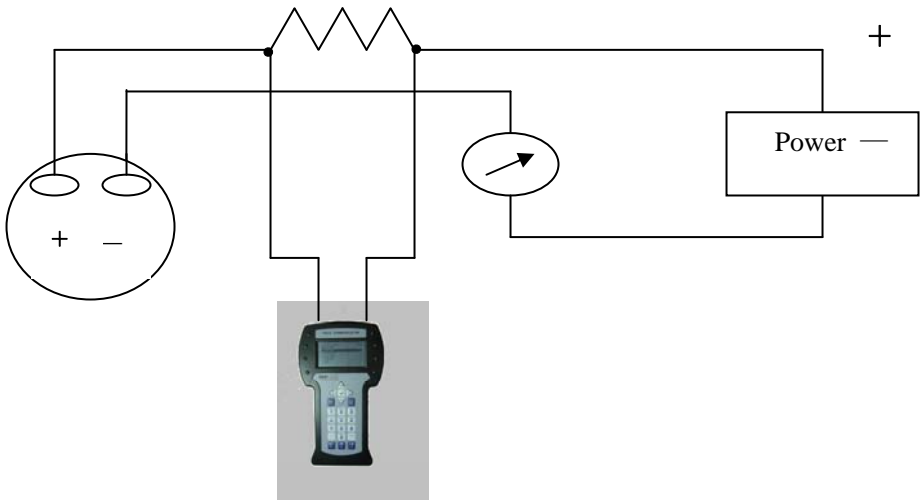

Figure 2-2
- * The Field Communicator to connect to the circuit (Figure 2-2)